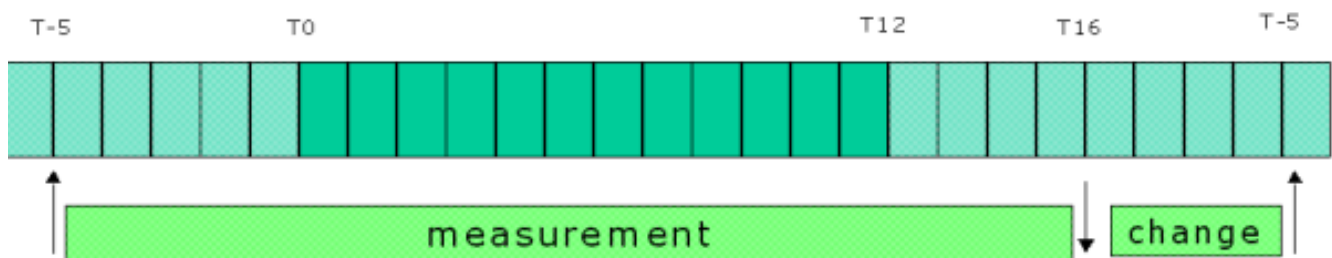

Figure 1. Daily workflow of calorimetric experimentation (Note: T0 designates start of dark cycle).
- Periodicity of measurements taken throughout experimentation (Figure 1)